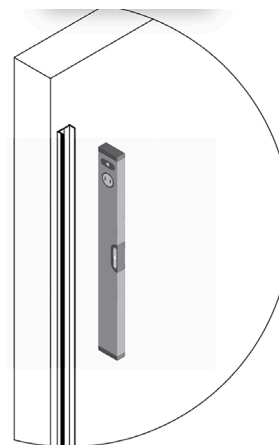

FIGURE 3
Make sure that the Wall Jamb (A) is level before marking for holes. (See Figure 3)